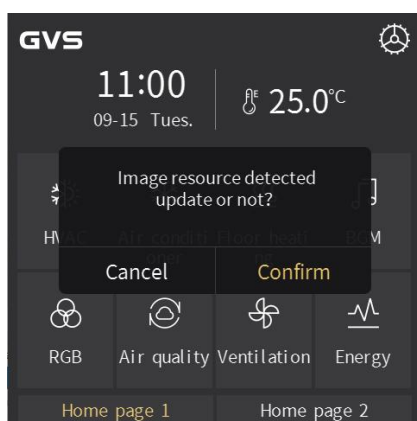

Fig.2.12.5
**Note:** ① Replacing pictures according to the name suffix of the new picture corresponding to the original album number of the system: for example, placing "Album\_1" in the folder "picture", it will replace the first one of the system album; another example as, place "Album\_1" and "Album\_3", it will replace the first one and the third one of the system album.
② Update pictures: when there is a folder named "picture" in the Micro SD card, and there is a picture in accordance with valid name and format, then it will update and store (even if the picture is the same as the last saved).
2. Insert Micro SD card into the device, if Micro SD card meet the above settings, and valid pictures are detected to be there, then will pop up a request window to confirm update, as shown in Fig.2.12.5;